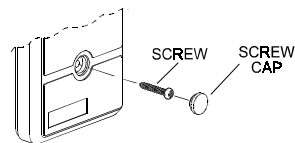

Figure 9. Cover Assembly
- A. Carefully position the front cover hole over the LED. Secure the front cover with the screw and screw cover (Fig. 9).